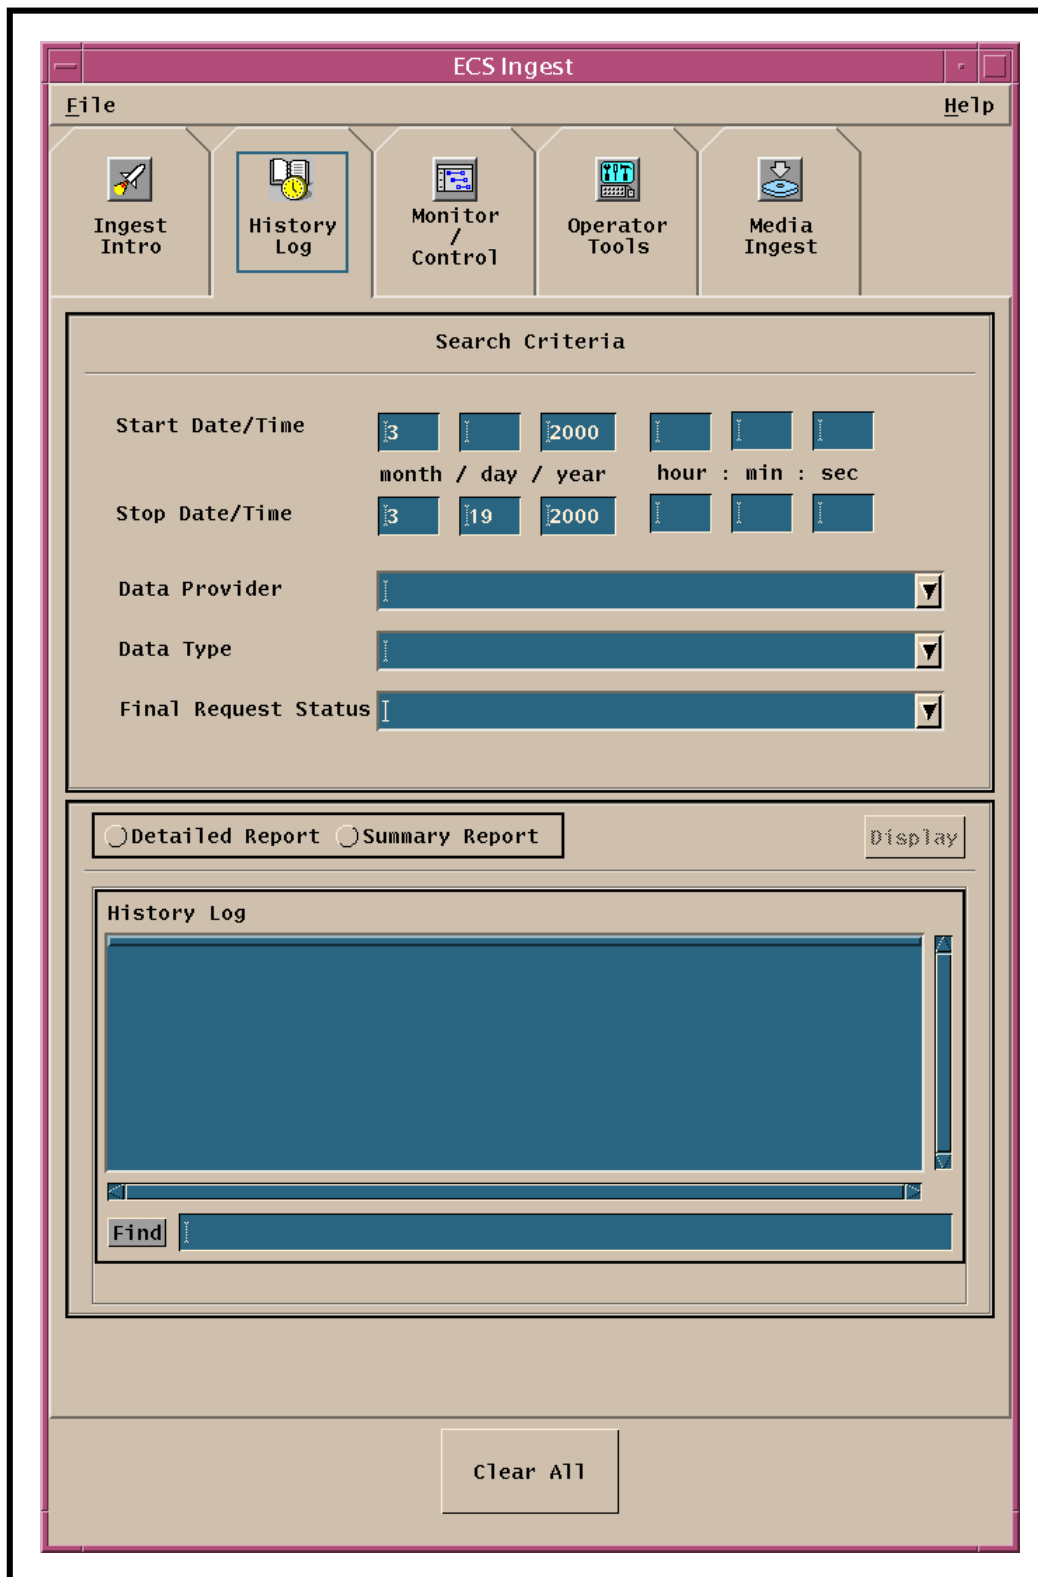

Figure 15. ECS Ingest GUI History Log Screen
- The **History Log** screen (Figure 15) is displayed.